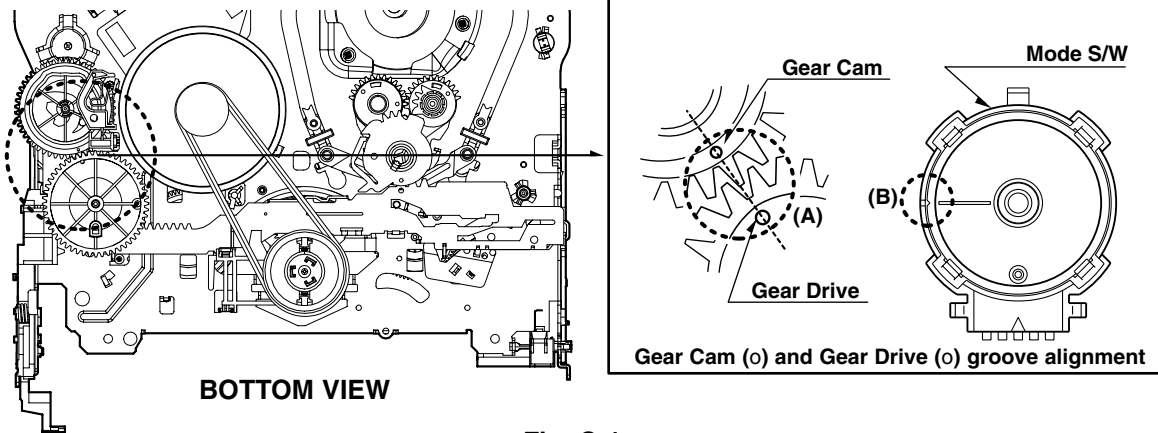
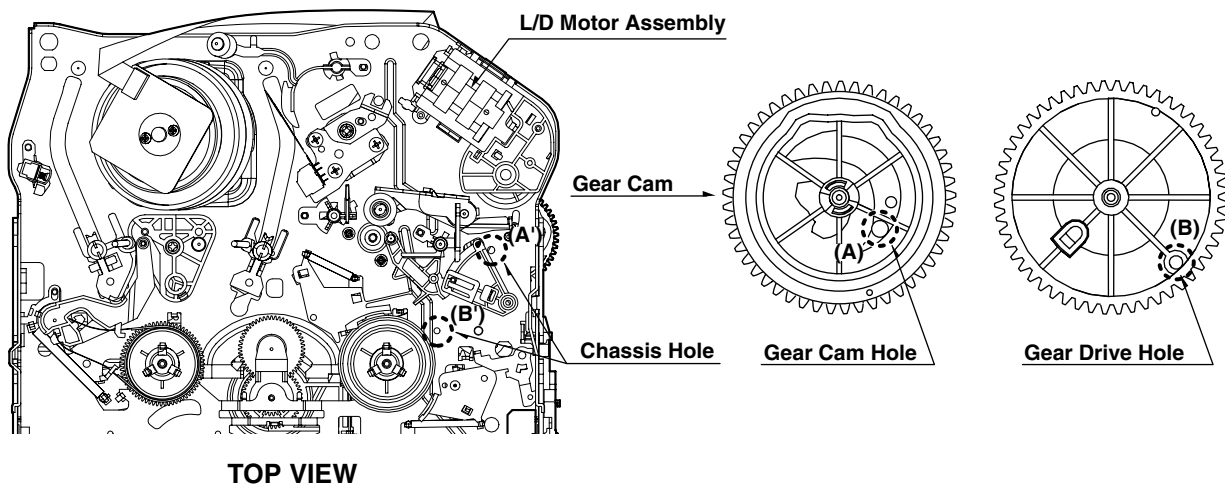

Fig. C-1
Fig. C-2
1) Turn the Power S/W on and eject the Cassette by pressing the Eject Button. 2) Remove the Top Cover and Plate Assembly Top, visually check if the Gear Cam Hole is aligned with the Chassis Hole as below Fig. C-2. 3) IF not, rotate the Shaft of the Loading Motor to either clockwise or counterclockwise until the alignment is as below Fig. C-2. 4) Remove the Screw which fixes the Deck Mechanism and Main Frame and confirm if the Gear Cam is aligned with the Gear Drive as below Fig. C-1(A). 5) Confirm if the Mode S/W on the Main P.C.Board is aligned as below Fig. C-1(B). 6) Remount the Deck Mechanism on the Main P.C.Board and check each operation.